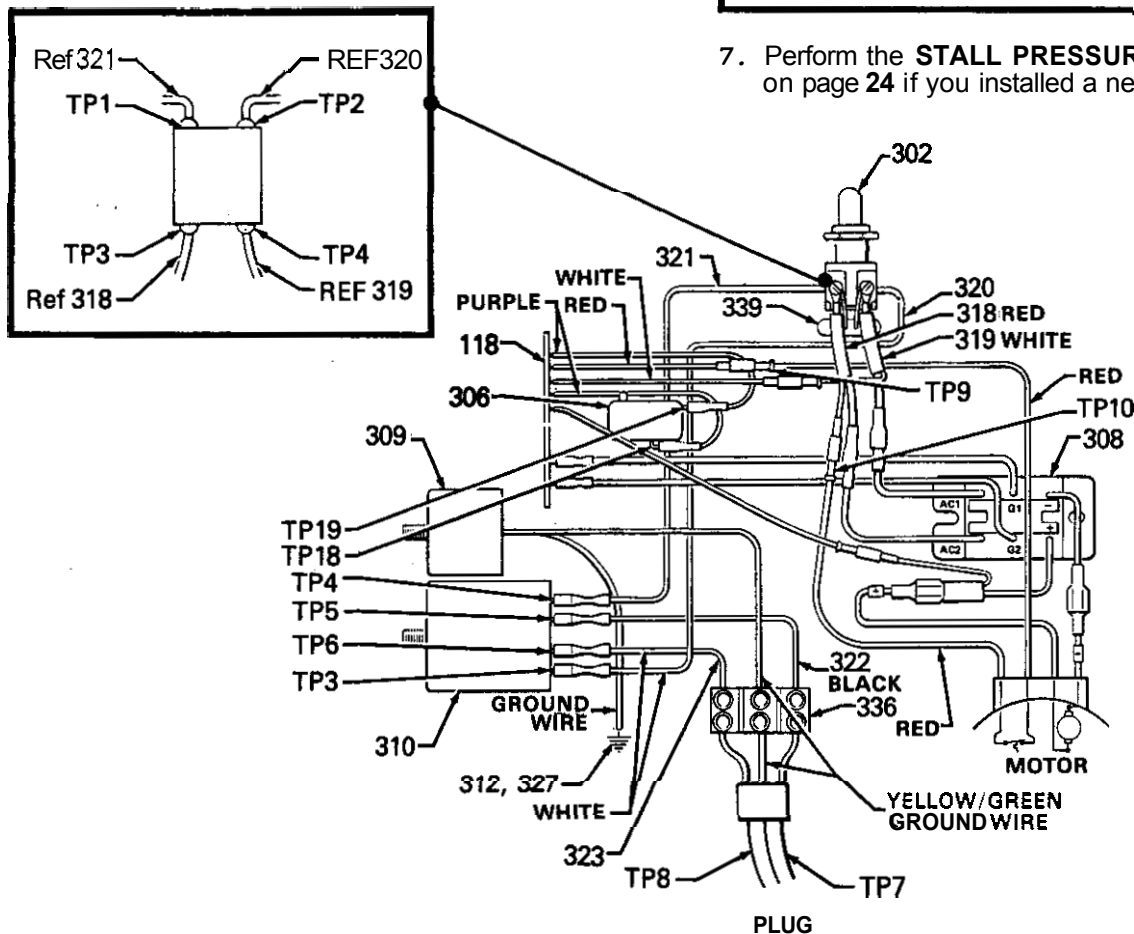

Fig 22
2. Remove the wires attached to the switch (302) at TP1 and TP2, using a screwdriver. See page 22, Fig 22
3. Use a 16 mm socket wrench to loosen and remove the nut and rubber boot (303) from the top of the pressure control box. Remove the switch guard (304).
5. Remove the wires attached to the switch TP4 and TP3 using a screwdriver. See page 22, Fig 22
7. Install the new switch so the internal tab of the anti-rotation ring (W) engages with the vertical groove in the threads of the switch, and the external tab engages with the blind hole (D) of the pressure control box.
8. Install the switch guard (304), aligning the internal tab with the groove in the threads.
9. Powder the inside of the rubber boot (303) with talcum, then shake excess out of boot.
3. Disconnect **ALL** wires from the board, including the two heavy black wires. Pay close attention to where connections are made. See Fig 22
4. To remove the board from the box, pull out the black plastic-tipped pin (330). Push the *bottom* of the circuit board toward the wall of the box and carefully slide the board out.
6. Reconnect all wires. Refer to the wiring diagram in Fig 22